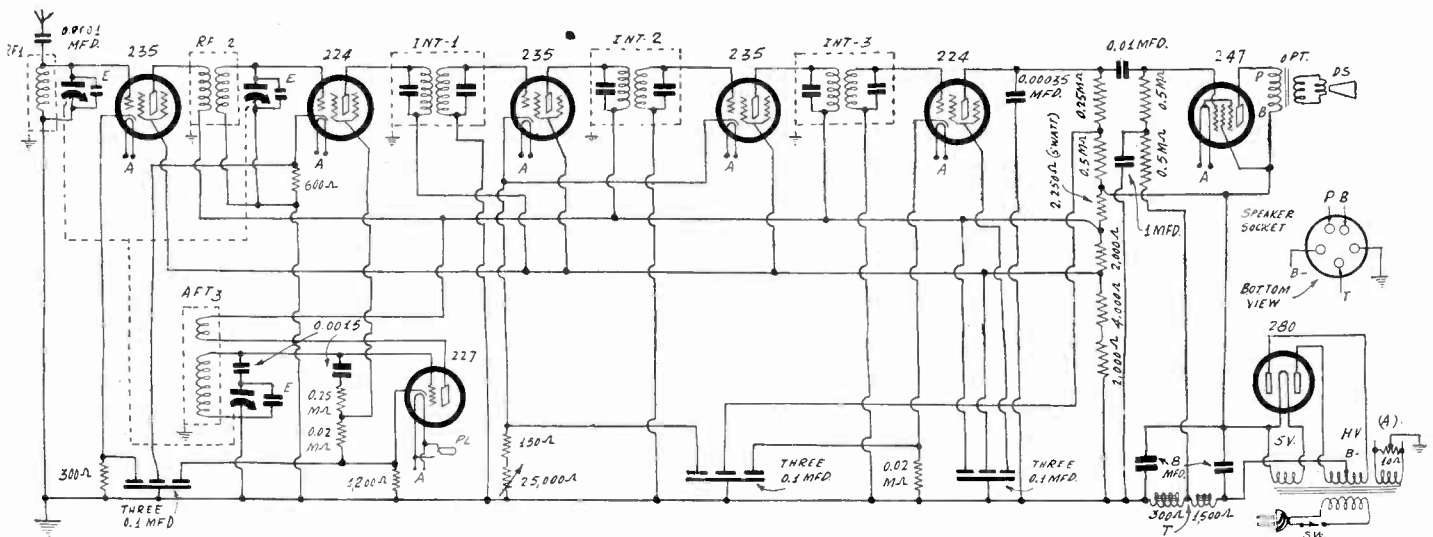

FIG. 2
Fig. 2 shows the circuit diagram, with detail at right for connection to a ninth socket (at rear of chassis) used for speaker plug receptacle. The bottom view of this socket is shown, with tap (T) of the 1,800 ohm field coil of the dynamic speaker going to grid, cathode to B minus, plate to ground, and heaters interchangeably to primary of the output transformer built into the speaker.